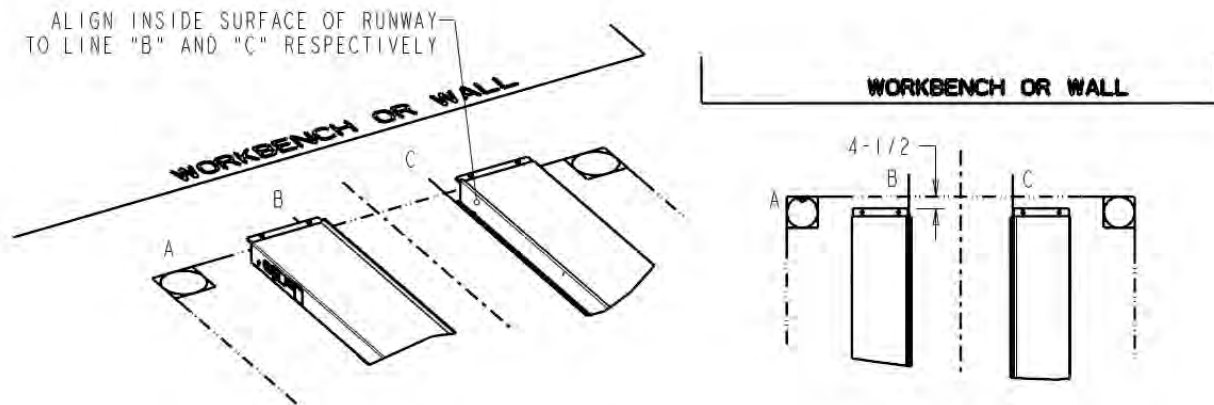

Figure 8 - Runway Positioning
4. Position both runways so the front edge is 4-1/2" from line "A". **See Figure 8.**